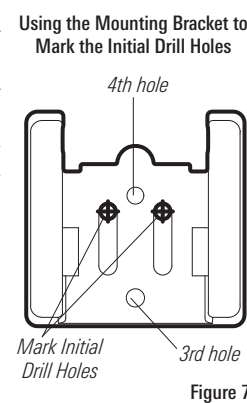

Figure 7
3. Continue to hold the bracket on the transom of the boat, and use a pencil or marker to mark where to drill the two mounting holes. Mark the drill holes near the top of each slot, making sure that your mark is centered in the slot (Figure 7).
1. To lock down the transducer, trace the position of the mounting bracket. Force the pivot to the UP position to gain access to the mounting screws, then re-align the mounting bracket against the transom of the boat to match the traced silhouette. Check the bracket position with the level again to make sure it is still level, then mark the fourth mounting hole using a pencil or marker (Figure 7). Unscrew and remove the mounting screws and the transducer assembly and set aside.